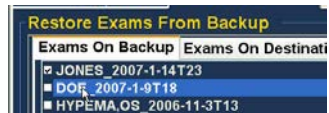

Figure 8.22 - Selecting the Second Exam
3. You can also click on the name of the exam you would like to select as shown in Figure 8.22.